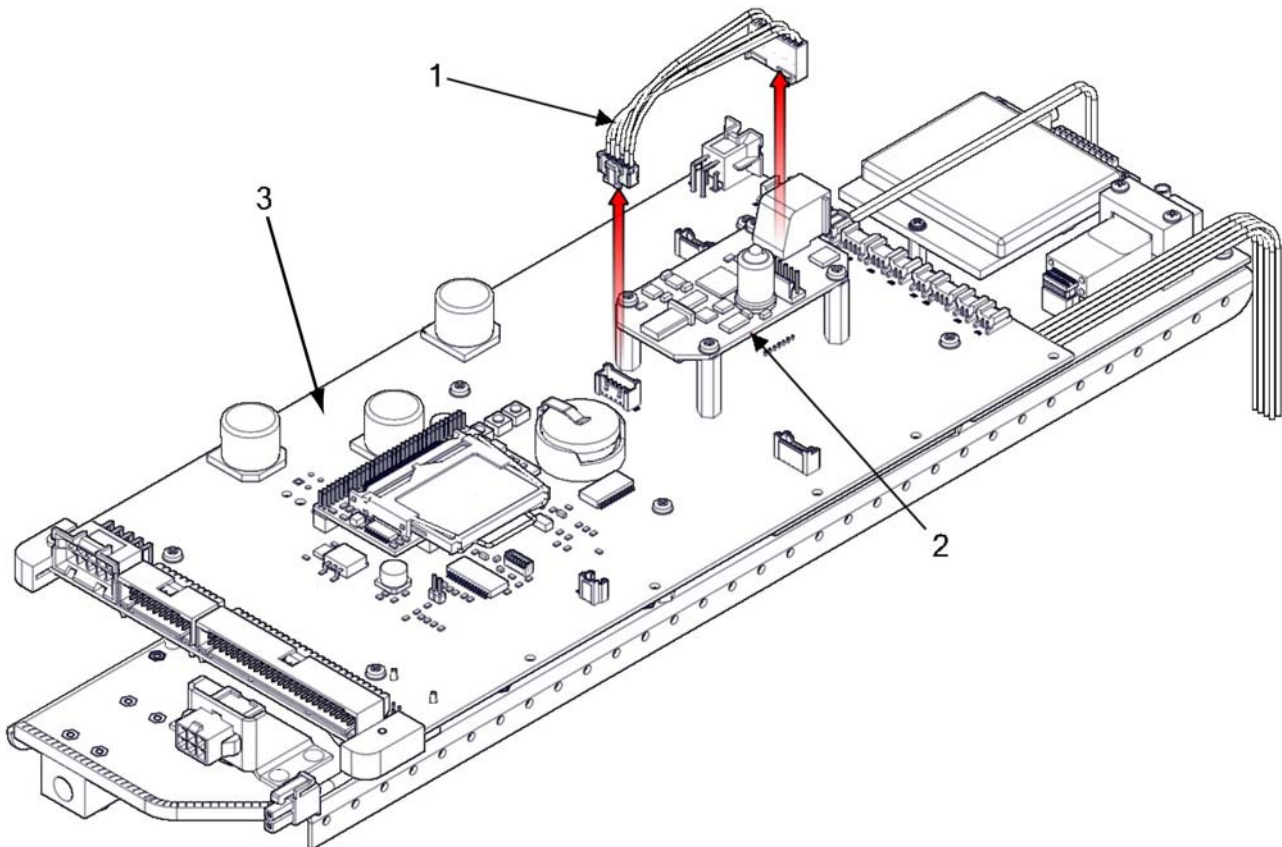

Figure 2-36 Attitude sensor wiring.
1. Disconnect the attitude sensor wiring harness (Figure 2-36, Item 1) from the glider main board (Figure 1, Item 3).
2. Disconnect the attitude sensor wiring harness (Figure 2-36, Item 1) from the true north attitude sensor (Figure 2-36, Item 2).
3. Remove the attitude sensor wiring harness (Figure 2-36, Item 1).
1. Connect the attitude sensor wiring harness (Figure 2-36, Item 1) to the true north attitude sensor (Figure 2-36, Item 2).
2. Connect the attitude sensor wiring harness (Figure 2-36, Item 1) to the glider main board (Figure 2-36, Item 3).